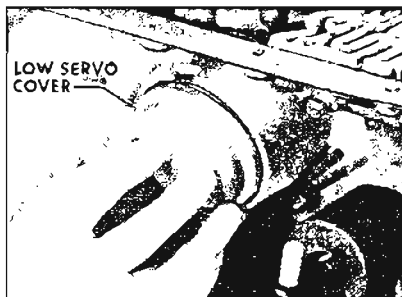

Figure 5-124
3. Remove tool J-21495-1 from case. Remove low servo cover. NOTE: If necessary aid removal with screwdriver. See Figure 5-124.